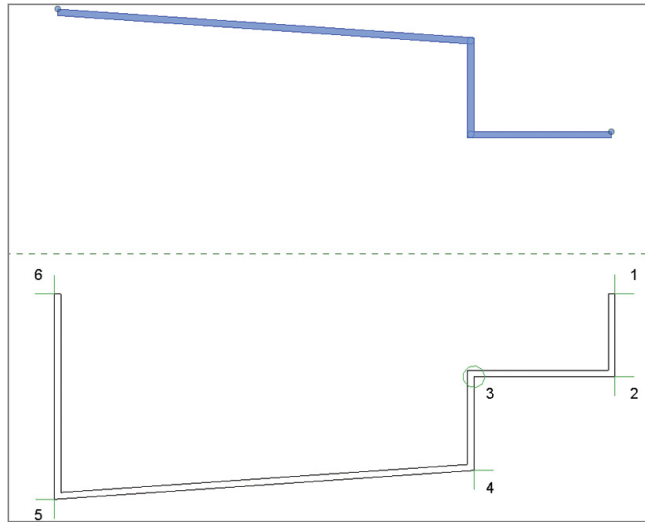

FIGURE 1.13 Mirrored copies of the selected walls
3. From the Modify tab in the ribbon, click the Mirror – Pick Axis tool, and then click the dashed line representing the reference plane in the plan view. Mirrored copies of the selected walls appear opposite the reference plane, as shown in Figure 1.13.